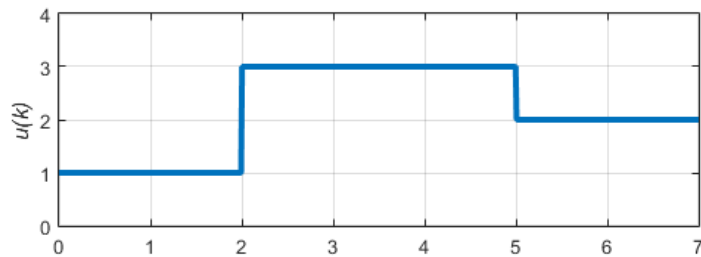

Figure 4. MPC solution at interval  $k$  with  $m=[2\ 3\ 2]$  and  $p=7$ .
*Manipulated variable blocking* is an alternative to the simpler control horizon concept, and it has many of the same benefits. Instead of using a scalar value to specify the control horizon, manipulated variable blocking divides the prediction horizon into a series of blocking intervals by specifying the control horizon as a vector of block sizes. The sum of the block sizes must match the prediction horizon  $p$ . This allows you to specify not only the desired number of MV moves, but also the duration of each move (as a multiple of the prediction sample time). Figure 4 shows